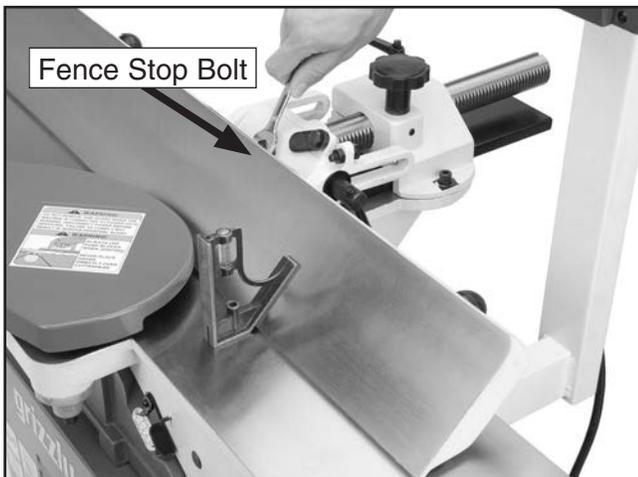

Figure 77. 45° outward fence stop jam nut.
3. Loosen the jam nut on the 45° outward fence stop bolt (**Figure 77**).